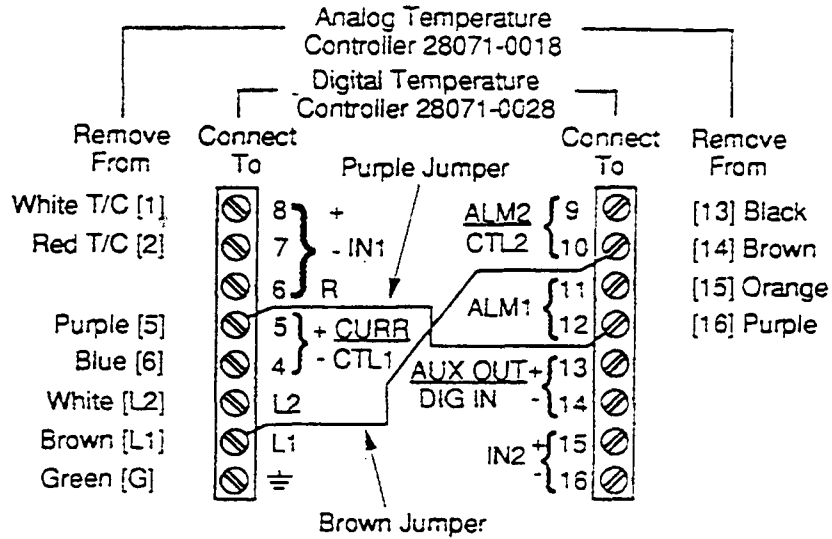

Figure 2 - Wiring Diagram Showing Electrical Connections (Refer to Table 1)
2. Identify oven Model/Voltage in **Table 1** and use related Wiring Diagram (Figures 2,3,4, or 5).
PS200 Gas Oven, 208-240V, 50/60Hz, 1Ph, 3W	Figure 2
PS200 Gas Oven, 200V, 50/60Hz, 1 Ph, 2W (Export Only)	Figure 2
PS200 Gas Oven, 208V, 50/60Hz, 1Ph, 2W (Export Only)	Figure 2
PS200 Gas Oven, 220-240V, 50/60Hz, 1Ph, 2W (Export Only)	Figure 2
PS310/314/360 Gas Oven, 208-240V, 50/60Hz, 1Ph, 3W	Figure 2
PS310/314/360 Gas Oven, 208-240V, 50/60Hz, 1Ph, 2W (Export Only)	Figure 2
PS310/314/360 Gas Oven, 190-380V, 50/60Hz, 1Ph, 2W (Export Only)	Figure 2
PS310/314/360 Electric Oven, 380V, 50/60Hz, 3Ph, 3W (Export Only)	Figure 2
PS310/314/360 Electric Oven, 480V, 50/60Hz, 3Ph, 3W	Figure 2
PS310/314/360 Electric Oven, 400-440 V, 50/60Hz, 3Ph, 3W (Export Only)	Figure 2